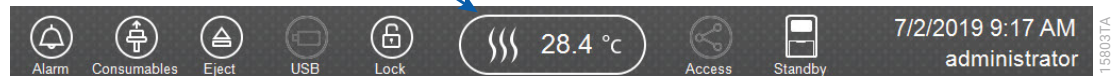

Figure 4. Preheating Oven.
2. Select the **Oven Temperature** icon in the Header on the 'Main Menu' screen, as shown in Figure 4, to start preheating the oven temperature to 60°C. The temperature displayed will change as the temperature of the oven increases. When 60°C is reached, a check mark will appear adjacent to the temperature.